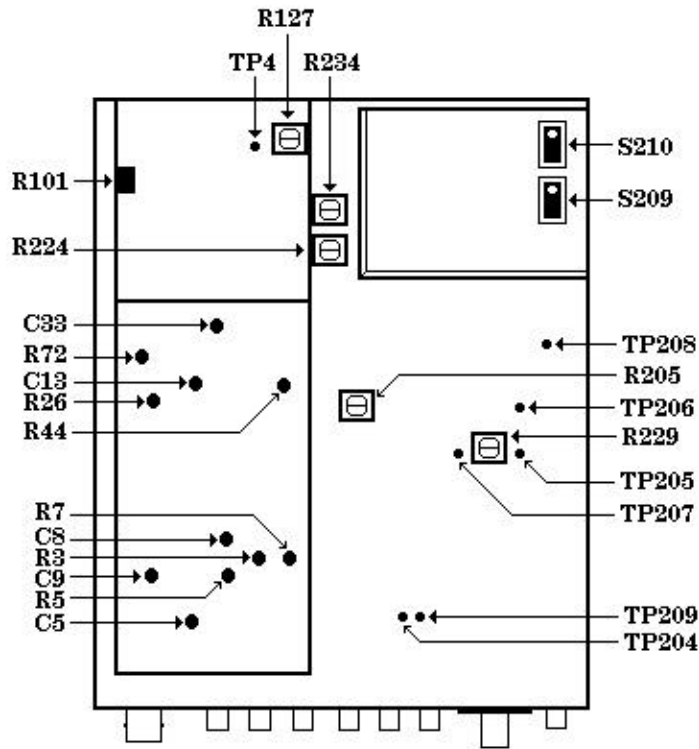

Figure 1. Test points and adjustment locations - top view.
b. Observe that slide switches S209 and S210 (fig. 1) are set for proper 120 V operation (both slide switches to left with white dot toward rear).
All test points and adjustments are shown in figure 1.
- (1) Connect calibrator **OUTPUT HI** and **LO** to **TI INPUT**.
- (2) Press and release all front panel pushbuttons to the out position, except **POWER**.
- (3) Connect a short between TP204 and TP209 (fig. 1).
- (4) Set calibrator for a 1 V, 500 Hz output. Record TI indication.
- (5) Press **RANGE HOLD/AUTO** pushbutton to **HOLD**.
- (6) Set calibrator for a .1 V, 500 Hz output. If TI does not indicate one-tenth of value recorded in (4) above, perform **b(1)** and (2) below.
- (7) Press and release **RANGE HOLD/AUTO** pushbutton to **AUTO**.
- (8) Set calibrator for a 2.5 V dc output.
- (9) Press **FUNCTION AC+DC/AC** pushbutton to **AC+DC**. If TI does not indicate between 2.388 and 2.612 V, perform **b(3)** below.
(10) Set calibrator for a .25 V dc output. If TI does not indicate between .2388 and .2612 V, perform **b(4)** below.
(11) Press and release **FUNCTION AC+DC/AC** pushbutton to **AC**.
(12) Set calibrator to output settings listed in table 3. If TI does not indicate within limits specified, perform appropriate adjustments.
¹Interaction exists between R44 and R205 (fig. 1). Repeat both adjustments as required.
²Interaction exists between C8 and C5 (fig. 1). Repeat both adjustments as required.
- (13) Disconnect calibrator from TI.
- (14) Disconnect short from TP204 and TP209 (fig. 1).
- (15) Press and release **FUNCTION AC+DC/AC** pushbutton to **AC**.
- (16) Press **RANGE HOLD/AUTO** pushbutton to **HOLD** and **STEP UP** pushbutton to **20 mV** range.
- (17) Connect calibrator **OUTPUT HI** and **LO** to TI **INPUT**.
- (18) Set calibrator for a 23 mV, 500 Hz output.
- (19) Increase calibrator output in increments of 0.1 mV while observing TI **UNCAL** annunciator light. If annunciator light does not illuminate from between 23.5 and 24.5 mV, perform **b(5)** through (11) below.
- (20) Press and release **RANGE HOLD/AUTO** pushbutton to **AUTO**.
- (1) Adjust R101 (fig. 1) until TI indicates one-tenth of value recorded in **a(4)** above (R).
- (2) Press and release **RANGE HOLD/AUTO** pushbutton to **AUTO** and repeat **a(4)** through (6) above.
- (3) Adjust R72 (fig. 1) until TI indicates between 2.49 and 2.51 V (R).
- (4) Adjust R26 (fig 1.) until TI indicates between .249 and .251 V and repeat **a(8)** through (10) above (R).
- (5) Connect multimeter **INPUT HI** to TI TP4 (fig. 1) and **INPUT LO** to TI chassis ground.
- (6) Remove tape dot from adjustment R127 and turn R127 (fig. 1) fully ccw.